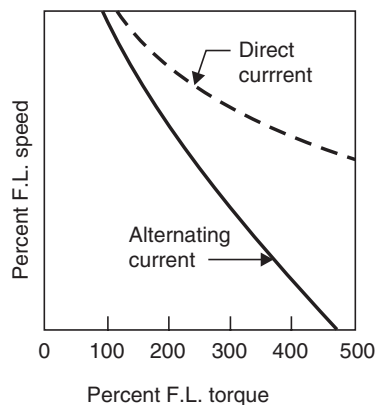

Fig. 23. Typical torque characteristics of a universal motor.
- Fig. 23 shows the typical torque characteristics of a universal motor both for D.C. and A.C. supply.